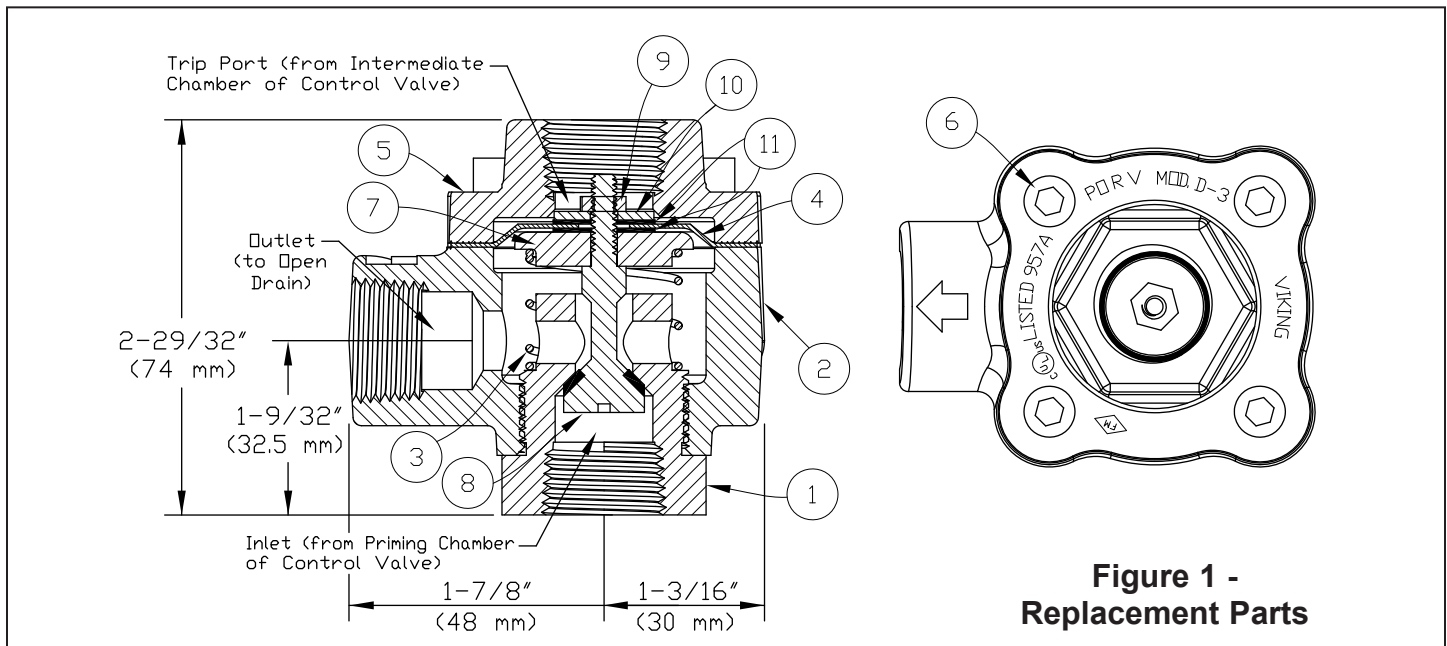

Figure 1 - Replacement Parts
Materials: Refer to Figure 1.
B. Disassembly: (Refer to Figure 1.)
3. To remove the cover (5), remove each of the cover screws (6) using a 3/16" Allen wrench.
4. With the cover (5) removed, you can now remove the jam nut (9).
- a. To remove the jam nut (9), place the flat head screwdriver through the bottom of the PORV to hold the push rod (8) in place.
- b. Use a socket wrench with a 3/8" socket to remove the jam nut (9).
5. With the jam nut (9) removed, you can remove the washers (10, 11), diaphragm (4), support (7), spring (3) and the push rod (8).
(Revised the description and added Item 6 to Figure 1.)